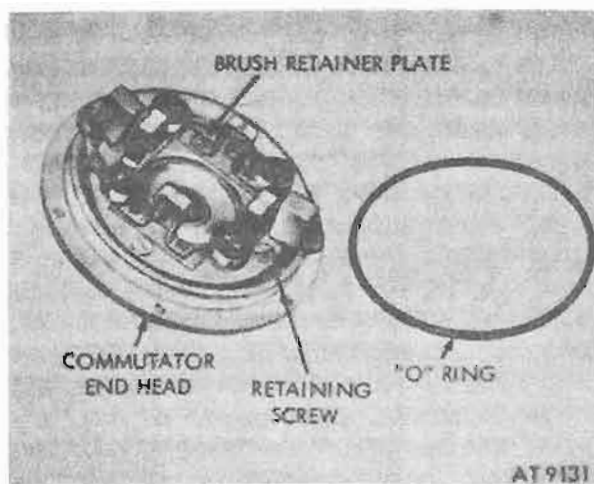

Figure 7-9. Commutator-end-head O-ring.
- a. Remove O-ring from commutator end head (fig. 7-9). Remove varnish from brush retainer plate with suitable solvent.
c. Remove four brush plate retaining screws. Lift plate from head (fig. 7-9).